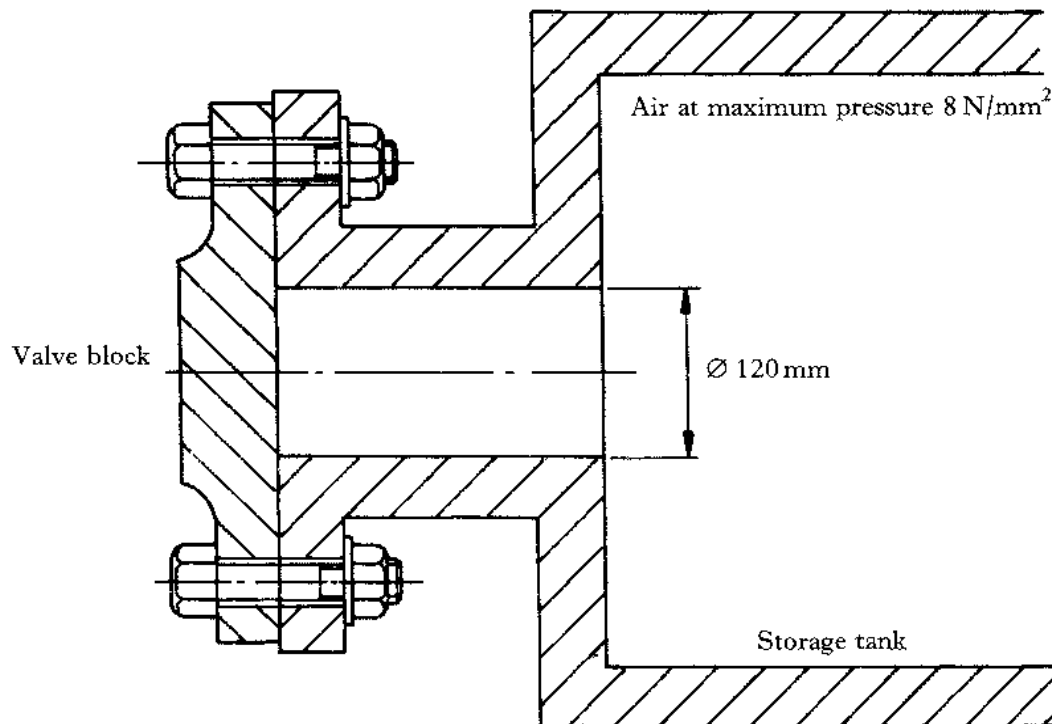

Figure Q9
- (b) Part of a pneumatic system is shown in Figure Q9. Compressed air is stored in the tank at a maximum pressure of 8 N/mm² and the 120 mm diameter outlet is sealed by means of a valve block which is held in place using 15 mm (M15) diameter bolts as shown. The normal stress set up in each bolt due to tightening is 6 N/mm². The factor of safety for the system is 5.